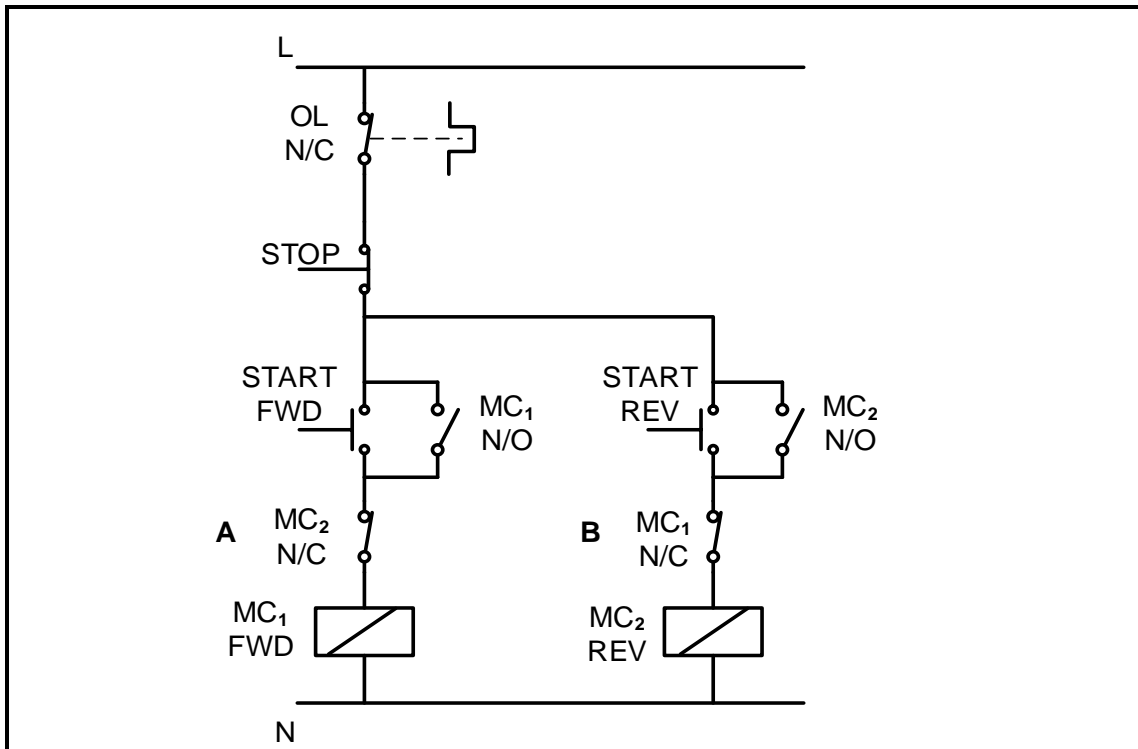

FIGURE 6.5: FORWARD-REVERSE CONTROL CIRCUIT
6.5 FIGURE 6.5 below shows the control circuit of a forward-reverse motor starter. Answer the questions that follow.